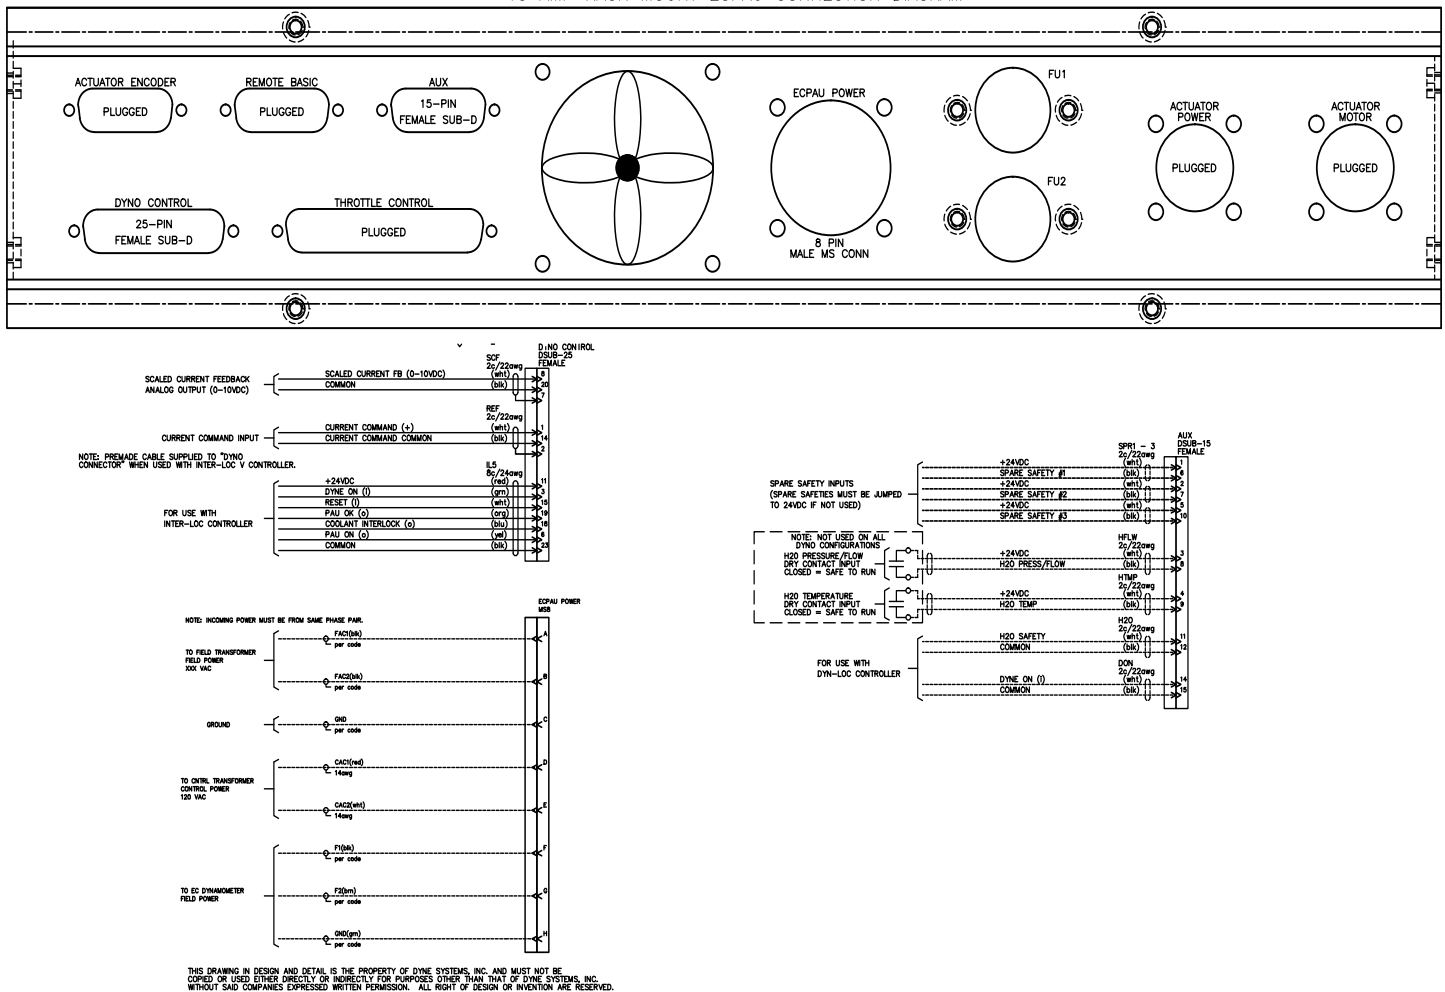

Figure 5.6 - 15 Amp Rack Mount PAU Back Panel Connections
1. Connect wires according to the 15 Amp wiring diagram (Figure 5.6) or 30 Amp wiring diagram (Figure 5.7).